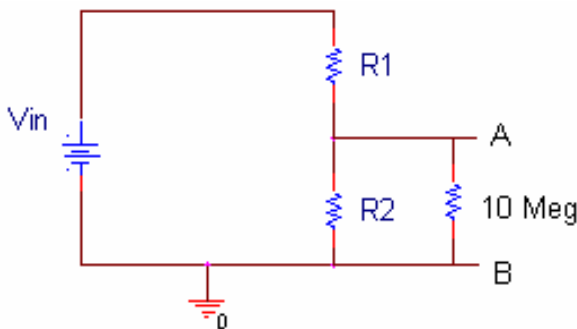

Figure B-6
- Calculate the voltage you would expect to measure across each resistor when no measuring device is connected to the circuit. (This is the theoretical voltage.) After calculating this voltage, measure the voltage across each resistor. Remember that your circuit now contains the impedance of the DMM (10 Meg ohms), as shown in figure B-6.